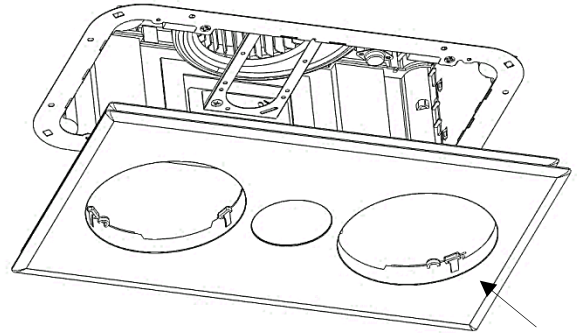

Fig.2
- 2) Undo the front cover ( Fig.2) by detaching the 4 x springs.